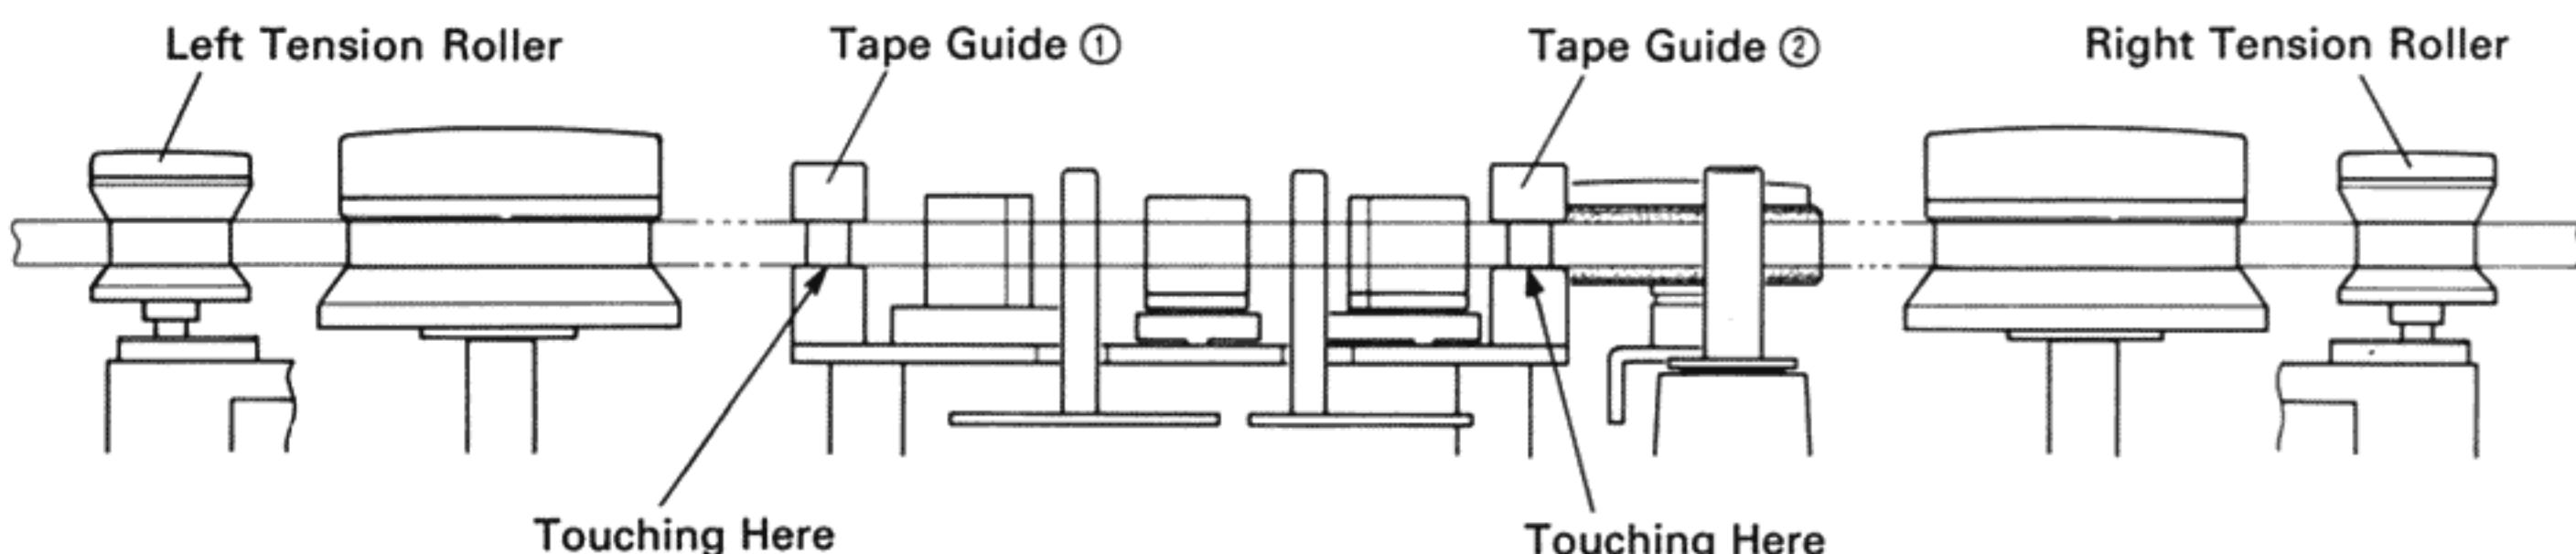
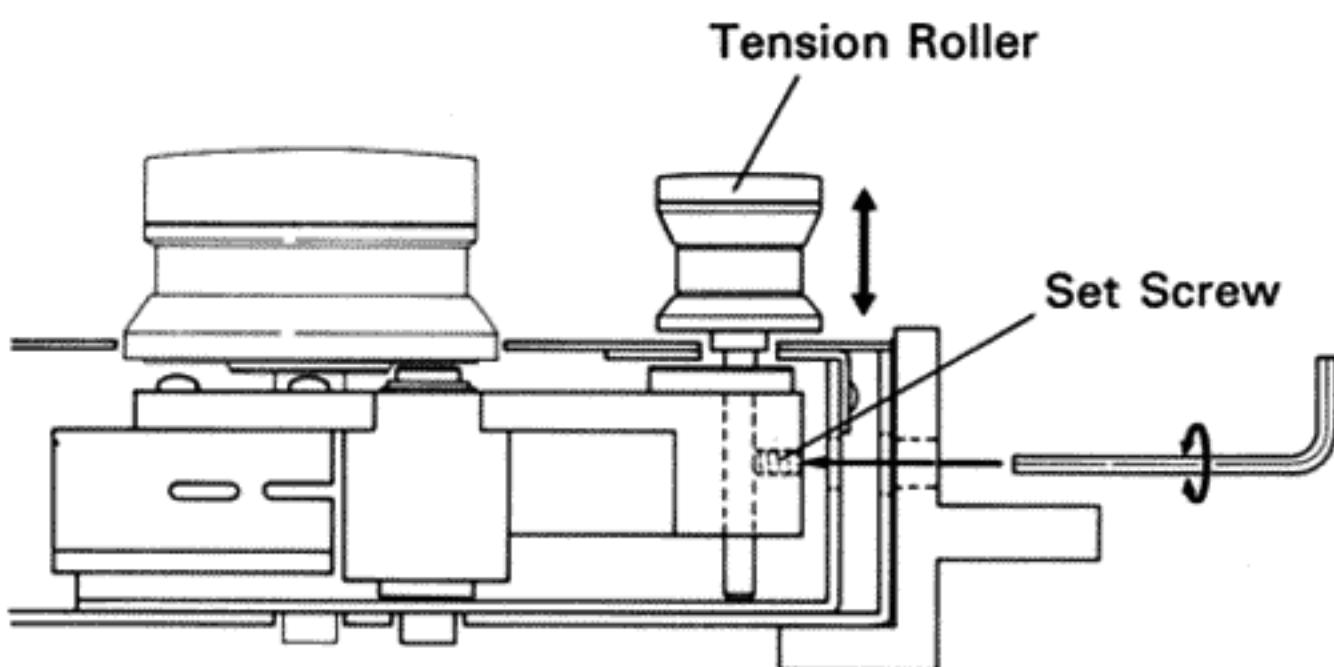

Figure 5-11. Tape Positioning
Figure 5-12. Tension Roller Height Adjustment
Tension roller height is adjusted by first loosening the set screw with a hexagonal wrench then moving the tension roller in and out (see Figure 5-12).
2. Refer to Figure 5-12 and adjust the height of the left and right tension rollers until the tape lower edge slightly contacts the lower flange of the tape guides "1" and "2" shown in Figure 5-11. Repeat adjustment by running the tape in F.FWD and REW as well.